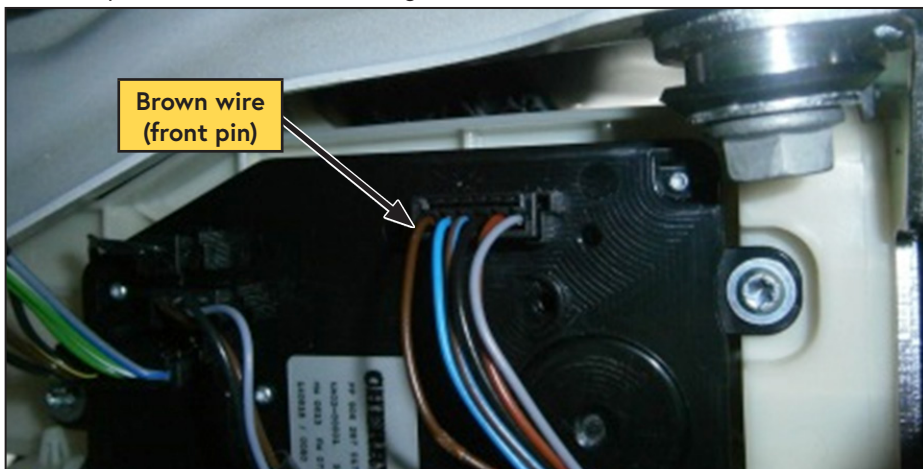

Figure 59 — Splice into shift module
- Splice the blue wire from the Throttle Control (Park Signal) into the brown wire (front pin) on the shift module (Figure 59).